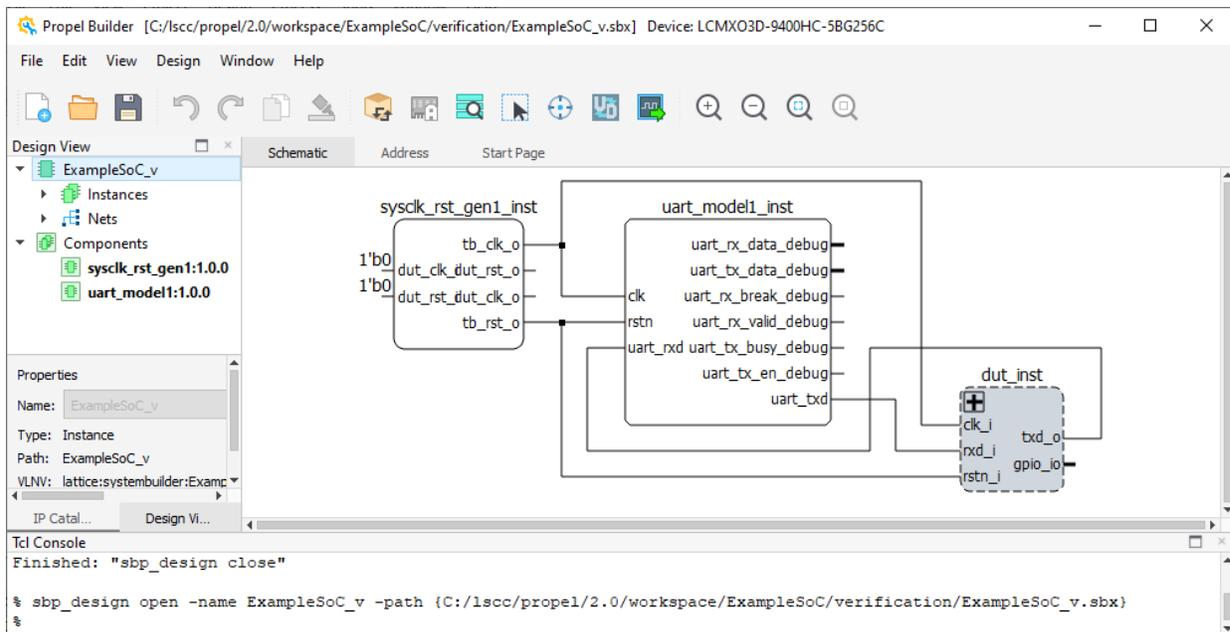

Figure 3.30. SoC Verification Project
2. Click the **Switch** icon on the toolbar to switch between SoC design and SoC verification project (Figure 3.30).
3. After the SoC design is switched to an SoC verification project, click the **Generate** icon to generate the simulation environment for OEM ModelSim. Click the **Launch Simulation** icon (Figure 3.30).